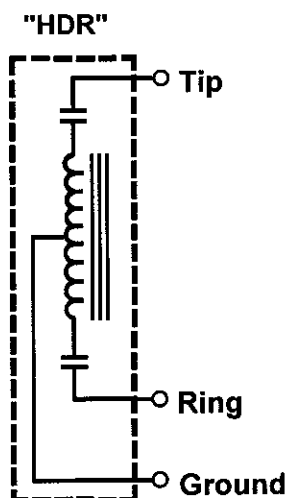

Figure 2: Harmonic Drainage Reactor (HDR)
4.02 The HDR is a broadly tuned, well balanced mutual drainage reactor. Electrically it contains two closely matched capacitors connected to the ends of a center tapped, grounded inductor. This arrangement provides a low longitudinal impedance (Z) path-to-ground while maintaining a high Z to metallic current flow. See Figure 2.
4.03 The HDR (Fig. 2) is noted for its wide voice-frequency band current drainage capability of the longitudinally induced harmonics (power